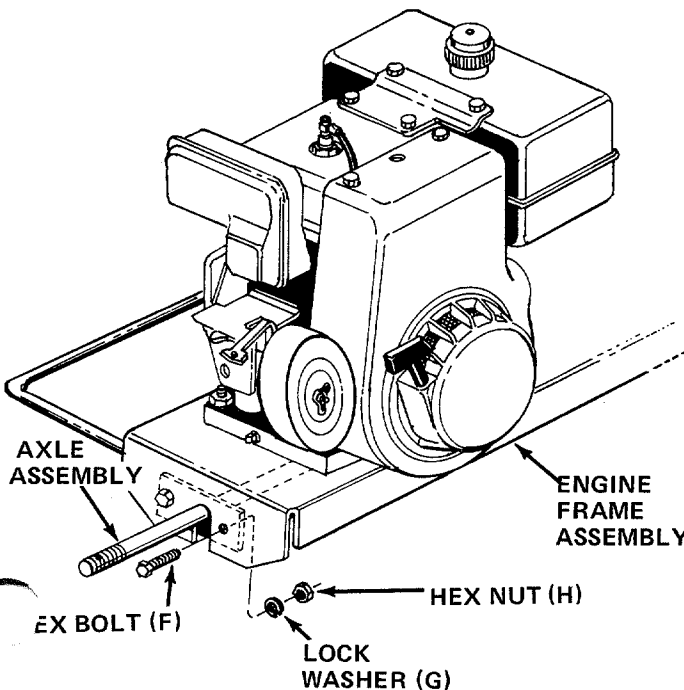

FIGURE 2
1. Place the axle assembly in position inside the the engine frame assembly as shown in figure 2. Secure with hex bolts (F), lock washers (G) and hex nuts (H).